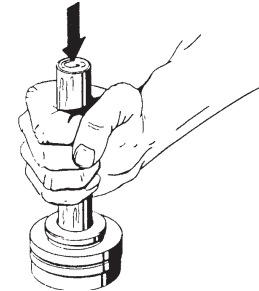

Figure 4-2
- 8. If the seal seat (#12.5) must be reused, use a wooden dowel sized to fit through the hole in the seal cup to tap it out. (refer to figure 4-2) Ceramic seal seats are particularly easy to damage. Normally, always replace the seats when servicing the pump.